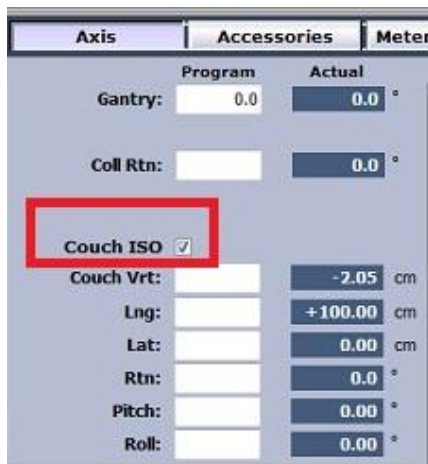

Figure 7: Couch ISO Checked in Service Mode
2. Verify that Couch ISO box is checked for this test. (See Figure 7)